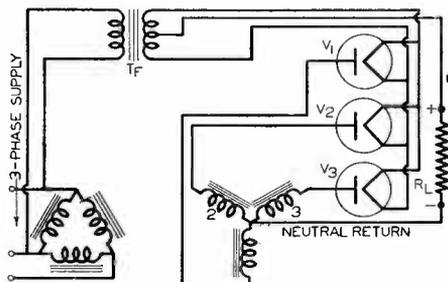

Fig. 2-234
*Ans.* Figure 2-234 shows a 3-phase half-wave rectifier circuit. Each phase of the Y-connected secondary is seen to be equivalent to a single-phase half-wave rectifier circuit, and the three circuits have a common load and a common neutral return wire. The tube filaments are heated by a separate transformer connected across one phase of the 3-phase supply.